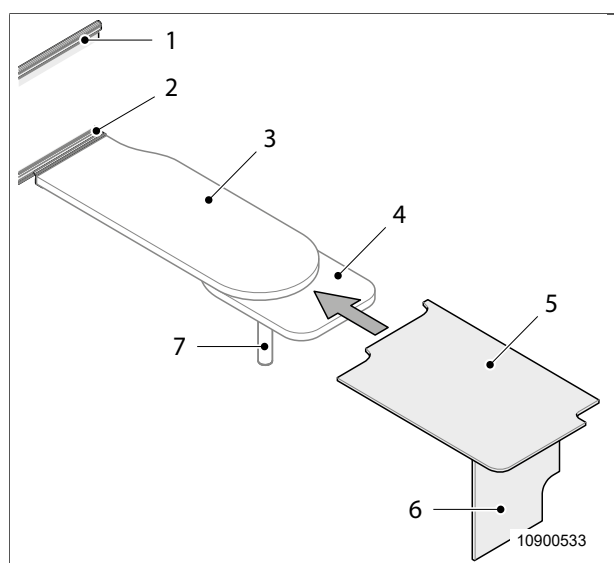

Fig. 29 Converting the seating group into a spare bed 1
4. Lift the table top (Fig. 29, item 3) on the right-hand side and unhook it from the upper guide rail (Fig. 29, item 1).
5. Remove the lower part of the table's leg (Fig. 29, item 7).
6. With the right-hand side of the table top lifted, hook the table top into the lower guide rail (Fig. 29, item 2).
8. Swivel out the swivelling table top (Fig. 29, item 4).
9. Fold out the supporting board (Fig. 29, item 6) from the base frame (Fig. 29, item 5).
10. Place the base frame (Fig. 29, item 5) on the swivelling table top (Fig. 29, item 4).